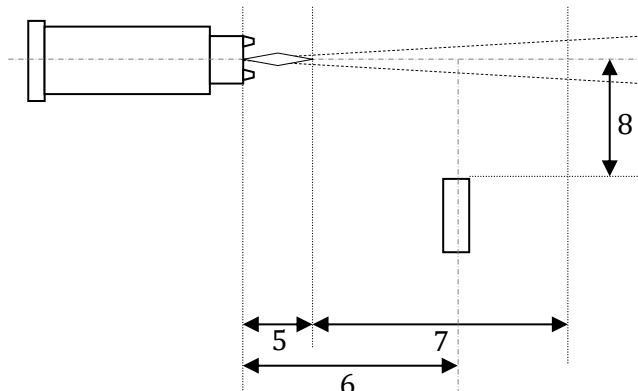

FIGURE 8 CSM EVOLUTION INSTALLATION DRAWING
**Step 7.** Position sensor head **100 mm** (8) (60mm on old system) from the plume axis (4).
**Step 8.** It is not necessary to take the reference measurements at the exact same stand-off you use for coating, as long as you keep the reference distance (6) constant over time. See Figure 8 CSM eEVOLUTION installation drawing.
**Step 9.** If monitoring is required while spraying, set measuring point within measuring area (7), away from the substrate because of flow perturbation phenomena as the spray hits the substrate. Could be validated by